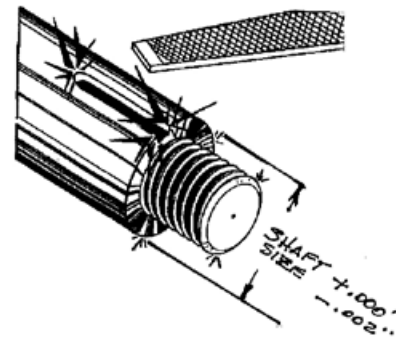

Figure 42
1. Check shaft/sleeve, it should be seal size $+0.000''$ to $-0.002''$ (0mm to 0.05mm) (Figure 42).
4. Check all keyways, threads, and shoulders for sharp edges, which could damage elastomers. Round edges or tape over before installation (Figure 42).